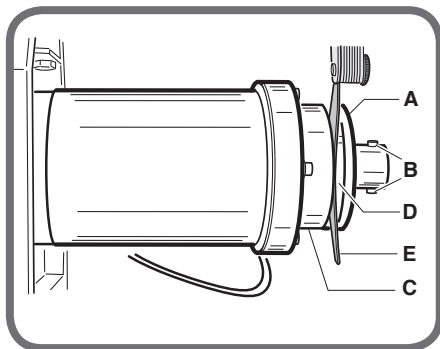

Fig.14
- Remove the hub (A, fig.14) from the motor rotor by means of the 2 dowels (B, fig.14) and the brake coil (C, fig.14), loosening the 4 fixing screws of the stator;
- Assemble the hub and the new brake by following the disassembly directions in the reverse order. When fixing the hub (A, fig.14), the two dowels (B, fig.14) must be tightened in the flat part of the rotor stem, and the distance between the anchor fixed to the hub (D, fig.14) and the brake (C, fig.14) must be 0.2mm $-0/+0.05$ mm (E, fig.14).